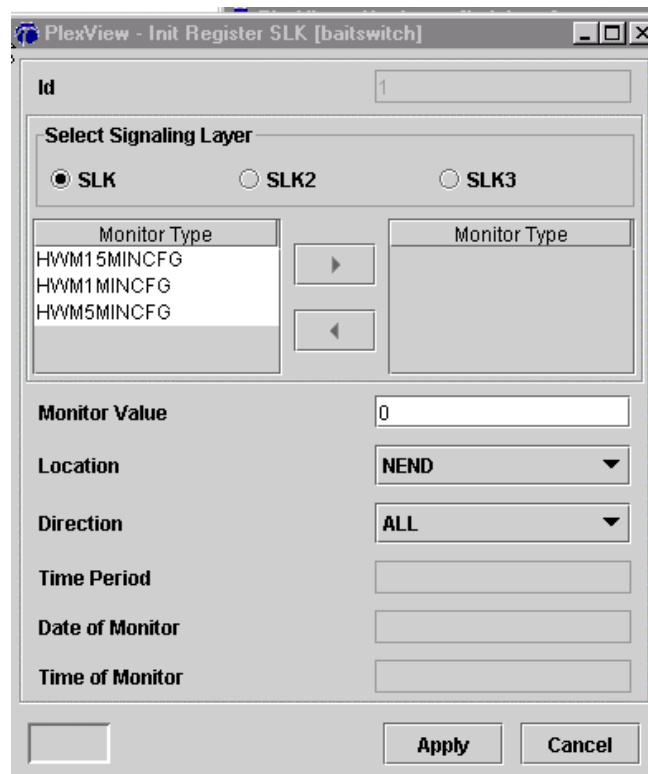

**Figure 3. Initialization of SLK Registers**
10. Clear or initialize the signaling link counters. Double-click the switch, SS7 and *Links*. Right-click the *link*, click *Modify* and then select *PM Stats* tab OR right-click the *link*, click *Init Register* and select *SLK*. See Figure 3.